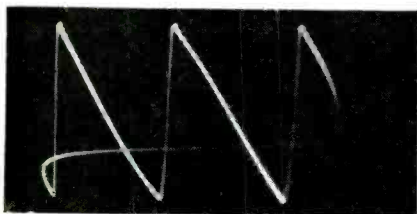

Fig. 1—High frequency ringing effect in Hor. Output circuit.
**A.** The ringing condition noted is shown in Fig. 1. The ringing voltage is a